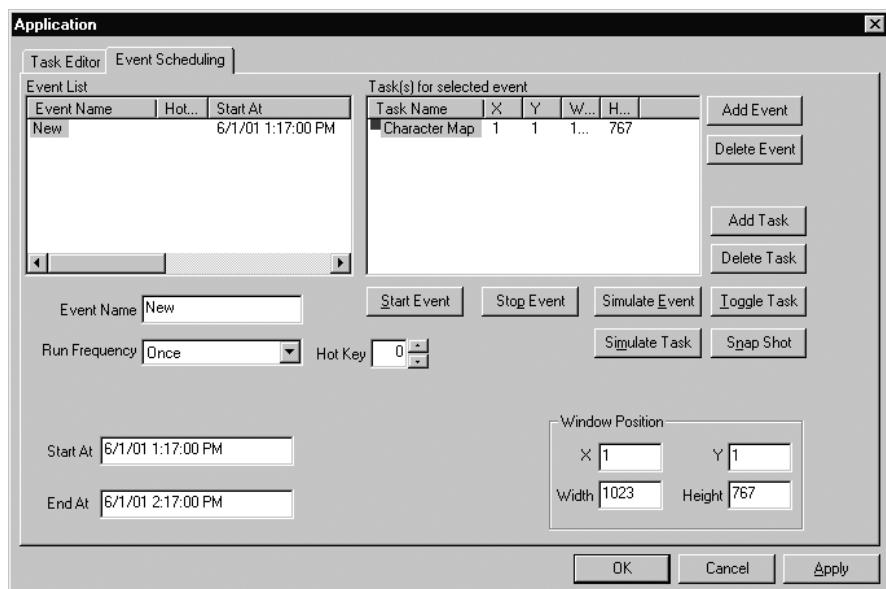

Figure 7.13. Application Window: Event Scheduling
- 4) Click **Add Task**. Your list of configured tasks will appear in a dialog box (Figure 7.13.). Select any task that you want to include in this new scheduled event. Although the event can consist of one or more tasks, each task must be added individually to the right-hand box called *Task(s) for Selected Event*.